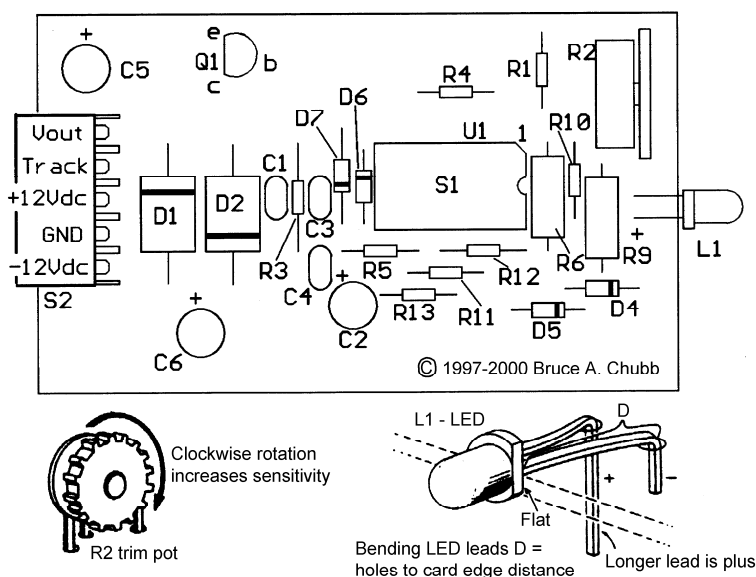

Fig. 3-2. Parts layout for optimized detector Rev. K.
Figure 3-2 shows the parts layout for the OD Rev. K, and Table 3-1 lists the parts required.
□ **D1, D2[+].** Use needle-nose pliers to bend the heavy leads of these power diodes at right angles so they drop into the holes. The banded ends must face in opposite directions as shown in Fig. 3-2. Slip a 1/8-in spacer between the card and the diodes as they are soldered, then remove the spacer. The space helps ventilate the diodes and protects the card.
□ **D4, D5[+].** Install in the same manner as above, making certain that the banded end of each diode is oriented as shown in Fig. 3-2. Note that D3 is not used with the OD Rev. K.
□ **D6, D7[+].** Install in the same manner as above making certain that the banded end of each diode is oriented as shown in Fig. 3-2. Note that the banded ends of these fast Schottky barrier rectifiers, special
- **C2, C5, C6 [+]**. Insert these components with the capacitor standing perpendicular to the card making sure that the + leads, the longer of the two leads and denoted by a small + sign, go into the + holes as shown in Fig. 3-2. Incorrect polarity will damage these capacitors. Solder and trim the leads.
- **R2**. Install this potentiometer as in Fig. 3-2, push the three prongs all the way into the holes as you solder. You may need to adjust the back, single, prong a little so the potentiometer dial stands up perpendicular to the card.
- **Q1[+]**. Spread the leads of this transistor slightly to fit the three holes, making sure the center (base) lead goes into the hole closest to P1, and that the flat side of Q1 faces the direction shown in Fig. 3-2. Push it in only far enough to fit snugly without stressing the leads. Solder and trim the leads.
- **L1[+]**. Note the orientation of the flat side and + hole (longer lead) in Fig. 3-2. With needle-nose pliers, hold the leads securely next to the housing and bend at right angles as shown in Fig. 3-2 detail. The LED sticks out over the edge of the card so you can see it when the detectors are plugged into their motherboard. Once they are bent and properly fitted to the cards, solder and trim the leads.